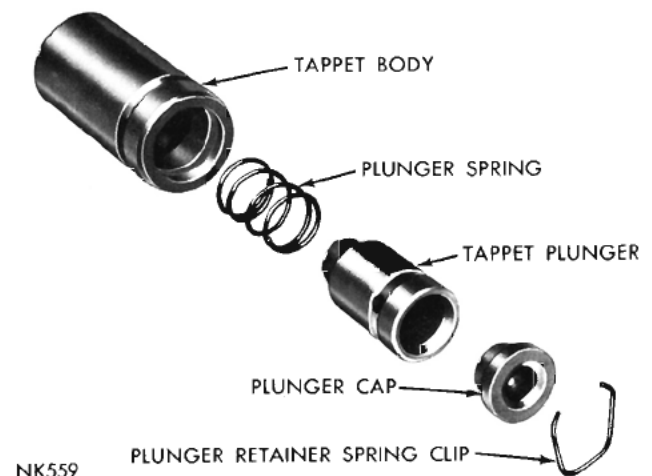

Fig. 82—Hydraulic Tappet Assembly (Disassembled View)
### Disassembly (Fig. 82)
- (1) Clean all tappet parts in a solvent that will remove all varnish and carbon.
- (2) Replace the tappets that are unfit for further service.
- (3) Assemble the tappets, as shown in Figure 82.